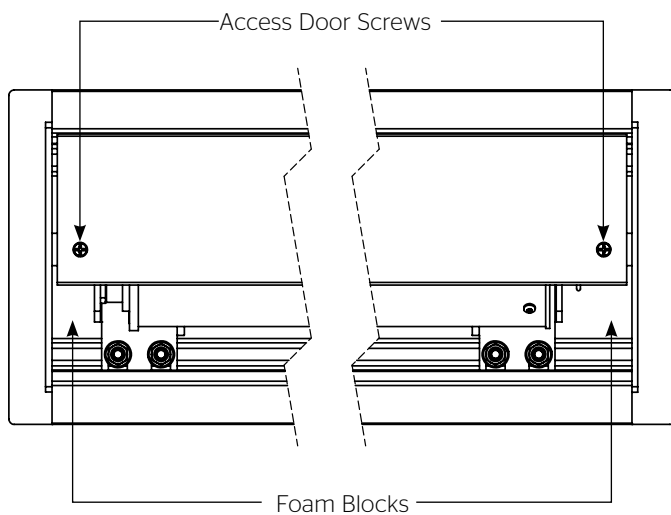

Figure 1
5. For shipping purposes, foam is also inserted between the roller brackets and end caps (Figure 1). Remove these foam blocks from the ends.
1. Remove the access door. First, remove the 2 screws from the ends using a #2 Phillips screwdriver. Be sure to support the door during this step to avoid injury. Then lift the door slightly and pull away from the edge of the case (Figure 1).